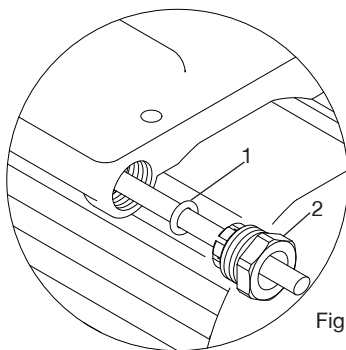

Fig. 12
To enable correct assembly of the cable gland the 'O'-ring (Fig. 12 item 1) must be placed over the cable before the clamping insert (Fig. 12 item 2) can be tightened.